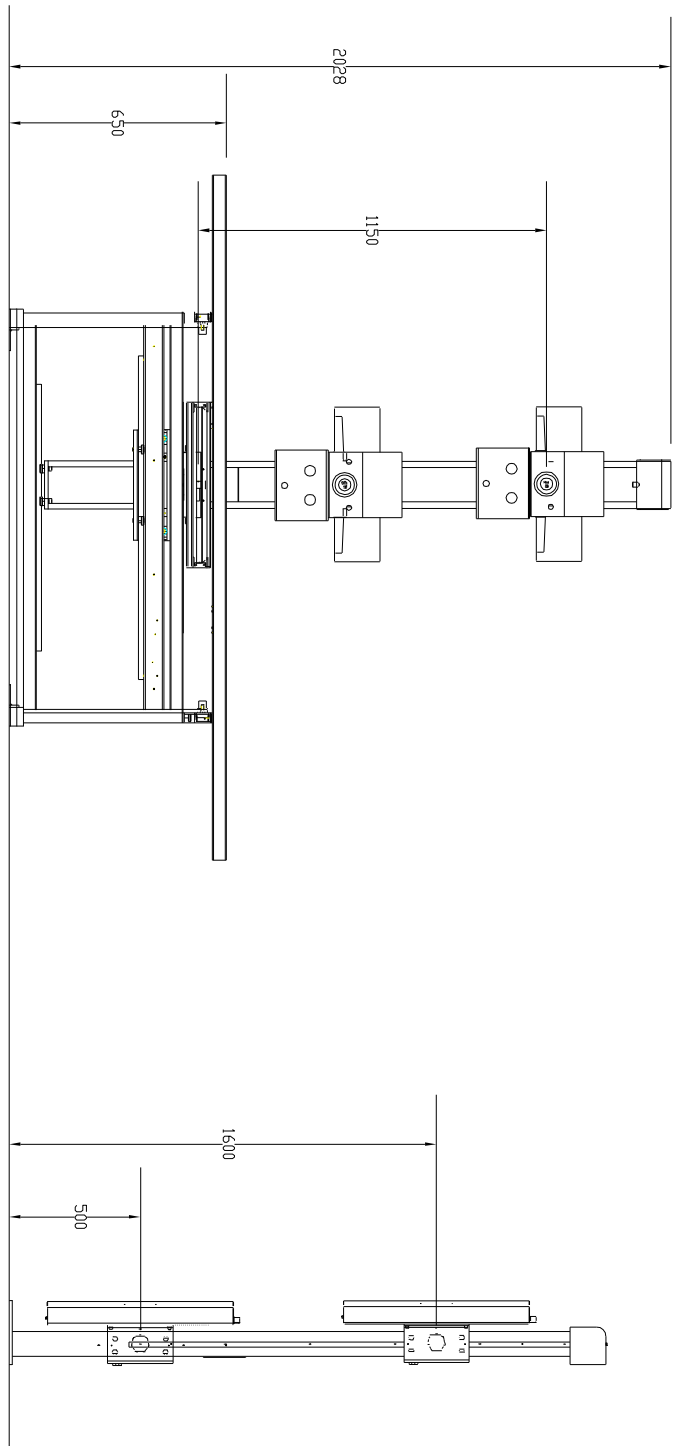

Figure 5-2 System Views (Basic)
- System - Figure 5-1 through Figure 5-2